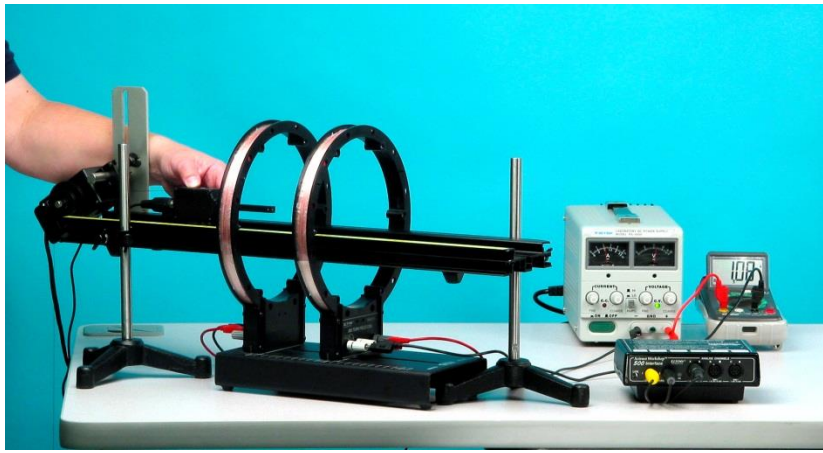

Figure 6: Helmholtz Coils
1. Attach a second coil to the Helmholtz Base at a distance from the other coil equal to the radius of the coil. Make sure the coils are parallel to each other. See Figure 6.